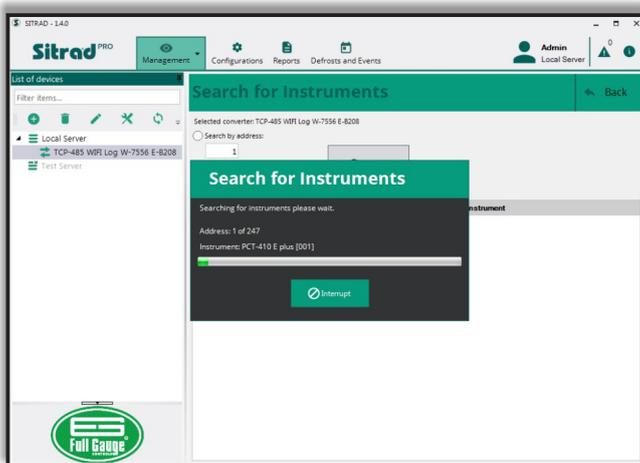

Figure 30
Step 6: The **Instrument Search** tab allows you to register instruments by address. There are two options: **Search in address range**, in which various instruments with addresses within the selected range are searched. After choosing the option, just click on **Search** and Sitrad^{PRO} automatically registers the instruments (Figure 30). If you choose to search the full range of addresses, the process may take a few minutes. The registered instruments will now appear on the **Device List** tab, linked to the converter.